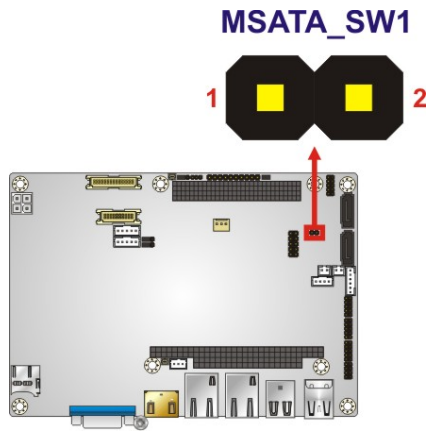

Figure 4-7: mSATA/PCIe Mini Mode Selection Jumper Location
- Jumper Location:** See Figure 4-7